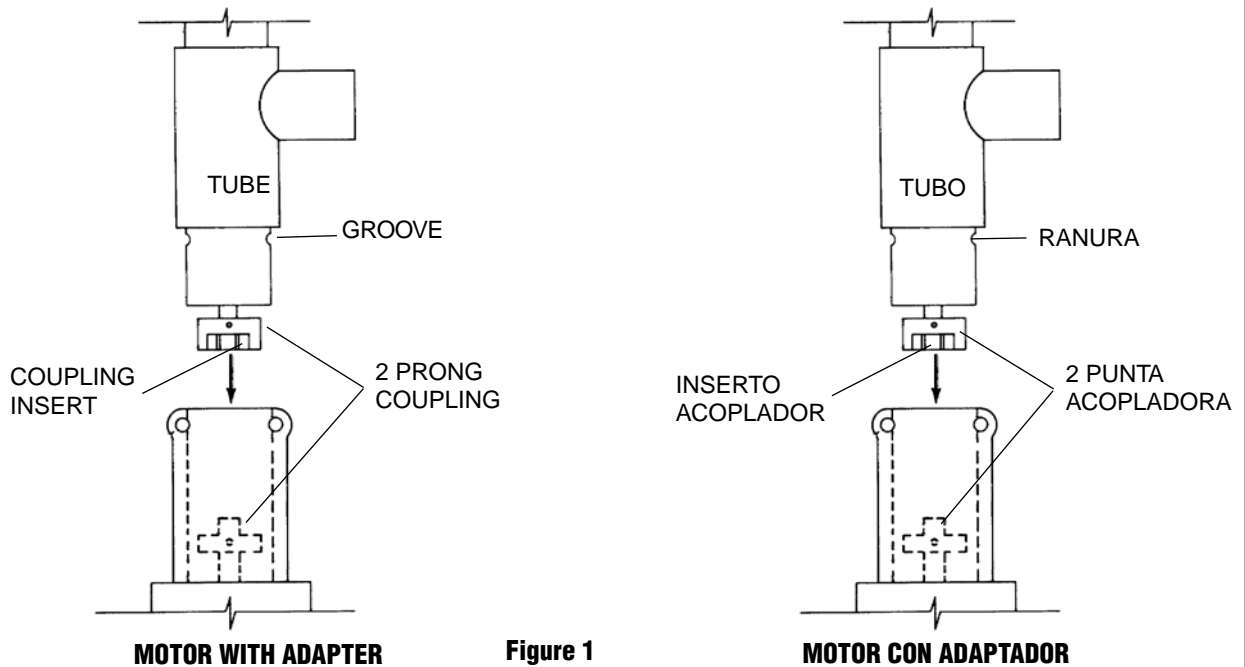

Figure 1
5. Slide pump/mixer down into motor until couplings mate and pump/mixer is seated properly. Refer to Figure 1.